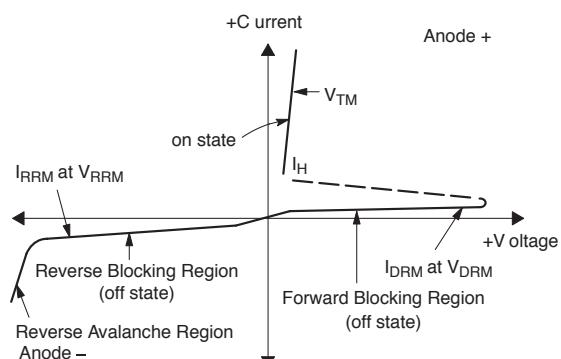

Figure 1. Peak Capacitor Discharge Current
2. Ratings apply for $tw = 1$ ms. See Figure 1 for I_{TM} capability for various duration of an exponentially decaying current waveform, tw is defined as 5 time constants of an exponentially decaying current pulse.
4. Ratings apply for $tw = 1$ ms. See Figure 1 for I_{TM} capability for various durations of an exponentially decaying current waveform. tw is defined as 5 time constants of an exponentially decaying current pulse.